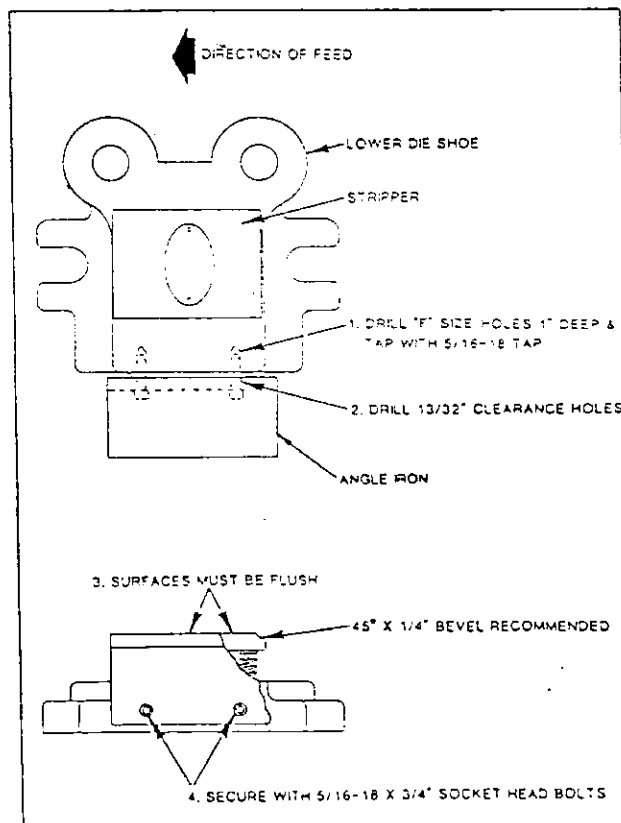

Figure 1-10
STEP 6: Use Figure 1-10 as a guide on bolting angle iron to lower die shoe.